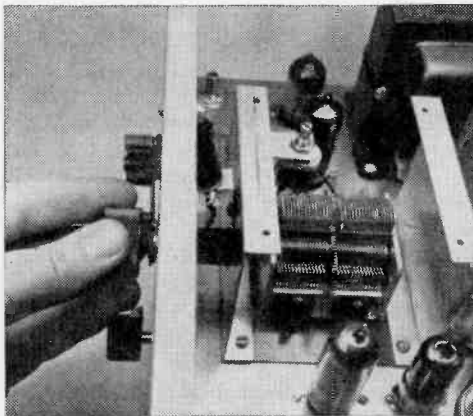

Fig. 2. As audio generator is tuned knob drives dual capacitor in the Wien Bridge.
**Peeping Inside.** To permit the frequency of the oscillator to vary, the capacitor sections of the network are made variable (Fig. 2). The operator simply dials the signal frequency by rotating a front-panel knob which drives the capacitor plates. He can vary frequency from, say, 20 cps to 200 cps. (The capacitors are limited to fairly small changes in value.) Increasing frequency